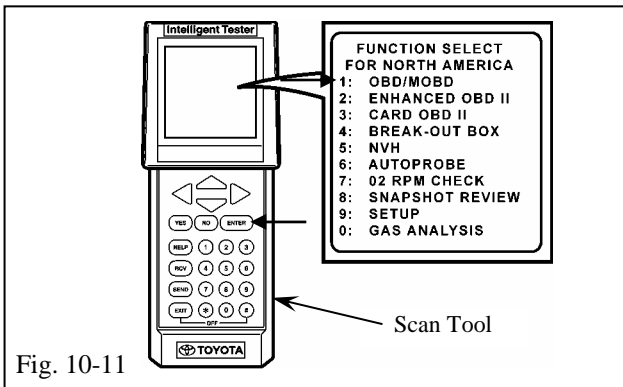

Fig. 10-11
- (l) Select “OBD/MOBD” in the Function Select menu with the scroll key, then press the “ENTER” button. (Fig. 10-11)